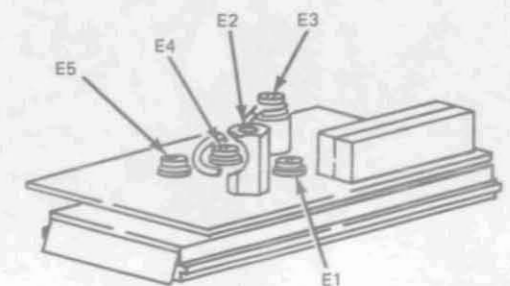

Figure 10
3. Remove the four screws at E1, E3, E4, E5 (Figure 10) and hex standoff E2, connecting range PWA to terminal board.